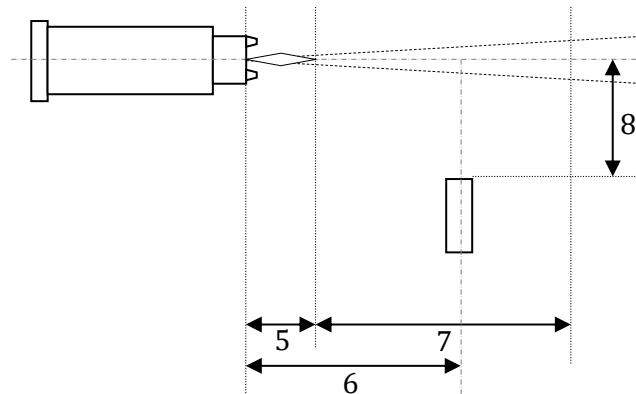

FIGURE 8 CSM EVOLUTION INSTALLATION DRAWING
**Step 8.** It is not necessary to take the reference measurements at the exact same stand-off you use for coating, as long as you keep the reference distance (6) constant over time. See Figure 8 CSM eVOLUTION installation drawing.
**Step 9.** If monitoring is required while spraying, set measuring point within measuring area (7), away from the substrate because of flow perturbation phenomena as the spray hits the substrate. Could be validated by spraying without the substrate and compare the measurement with the substrate.